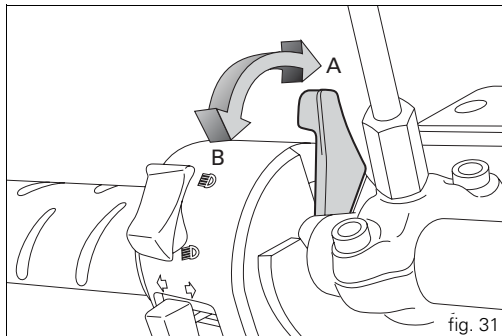

fig. 31
2) Move the cold start lever to (B, fig. 31).
5) Then, as the engine warms up, move the cold start lever gradually towards vertical position (A, fig. 31). Once the engine is at normal running speed, it should idle smoothly with the cold start lever completely closed.